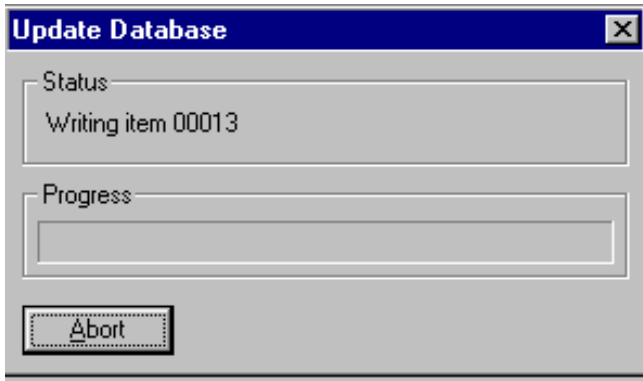

Fig. 13.41
6. A Progress meter appears and continues to display until the update is complete. See Fig. 13.41.
**NOTE:** The update can be terminated by pressing Abort on the Progress meter (Fig. 13.41).